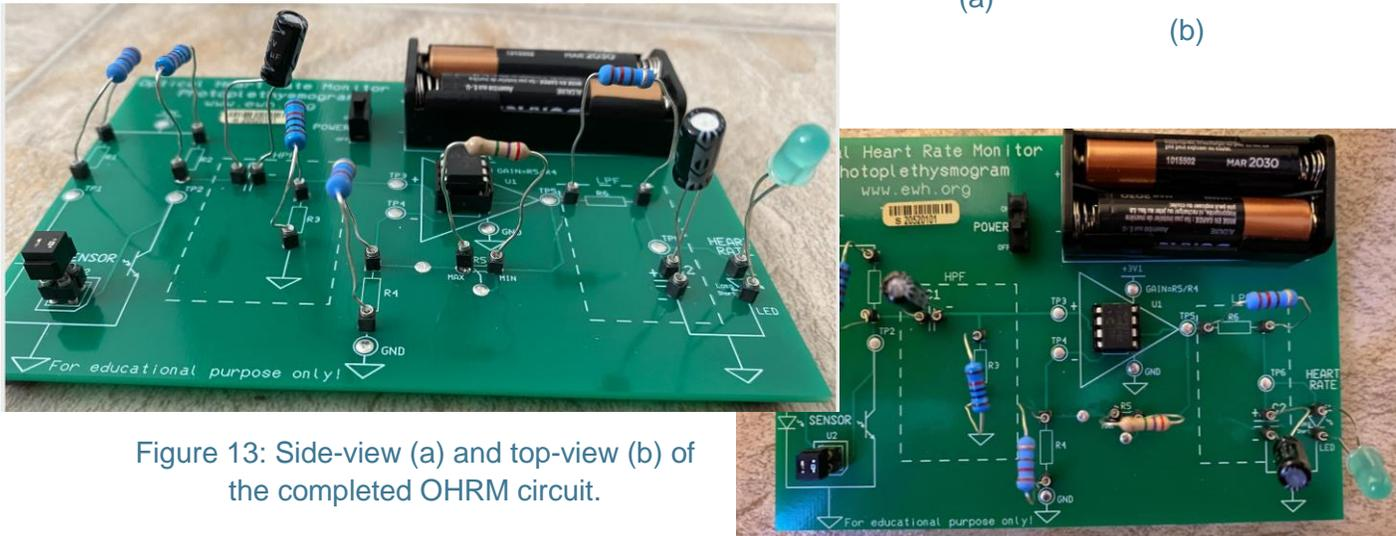

Figure 13: Side-view (a) and top-view (b) of the completed OHRM circuit.
Congratulations!! The Optical Heart Rate Monitor has been built. Check the constructed circuit against Figure 13 to make sure that all the components are in the right place.
- Make sure all components are in the correct place (Figure 13) and secure by gently trying to pull each one out of their sockets.